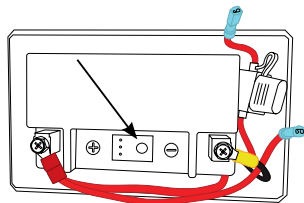
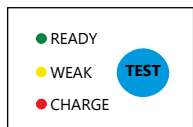

Fig. 3
Fig. 4
- 3.** On the top of the battery (Fig. 3), you will find a pushbutton marked TEST. Push this button down and hold it for three seconds. (FIG. 4) If the GREEN or YELLOW LED light, go to Step 4. If the RED LED lights or none of the LED's lights, go to CHARGING THE BATTERY on Page 9.